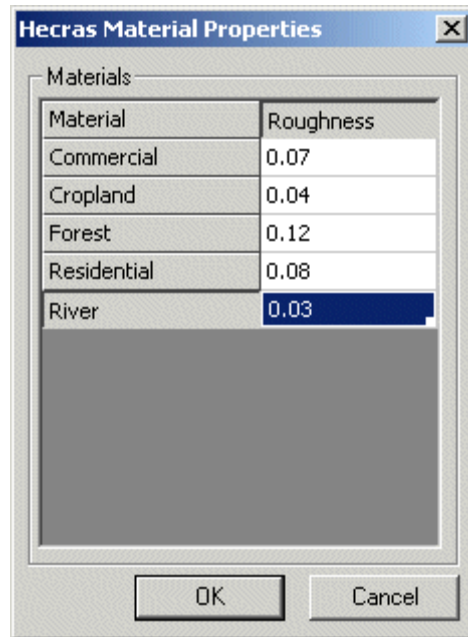

Figure 5-2: HEC-RAS Material Properties Dialog
5. Enter the roughness values for each material as shown in Figure 5-2